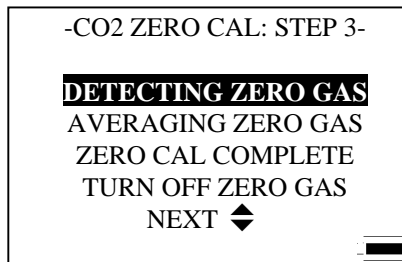

Figure 4-5: CO₂ Zero Calibration: Step 3 Screen
5. The Q-TRAK Plus monitor will indicate the status of the calibration process. After the instrument has averaged the zero gas, the display will highlight "ZERO CAL COMPLETE" (see Figure 4-5).